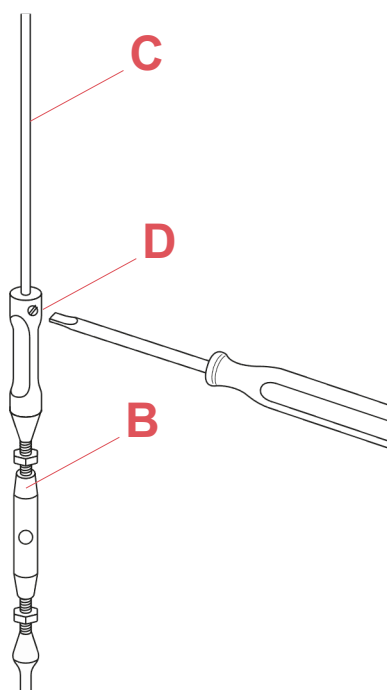

Fig.2
Insert the end point of the steel suspension cable (C) into the upper hole of the turnbuckle (B) and then fasten the locking screw (D). (Fig.2 page 27)